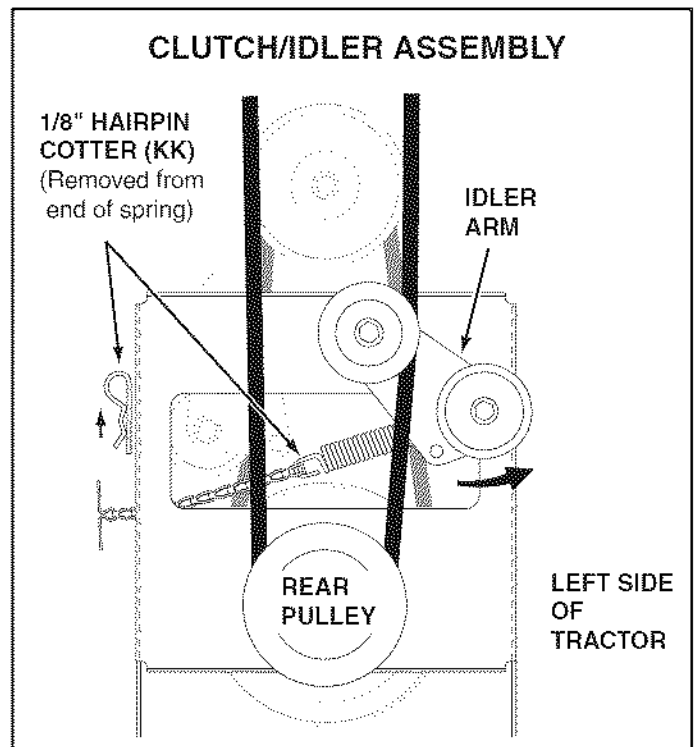

FIGURE 56
STEP 57: (SEE FIGURE 56)
- Remove the 1/8" hairpin cotter (KK) that secures the end of the idler arm spring to the right side of the clutch idler assembly. Swing the idler arm to the left side.